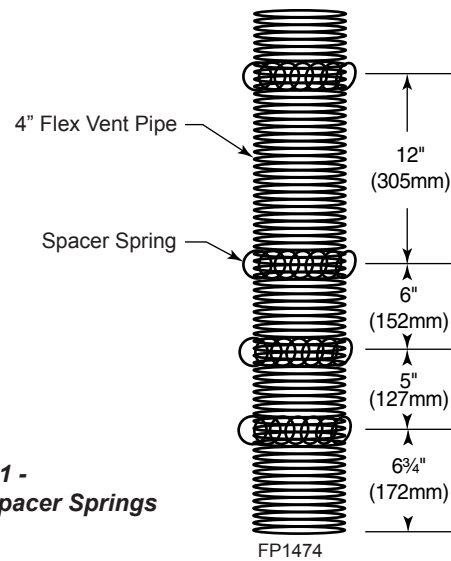

Figure 31 - Install Spacer Springs
Install the four (4) spacer springs on the 4" flex vent pipe. When installing the spacer springs around the 4" pipe, stretch the spring to approximately 15" (381 mm), wrap the spring around the pipe and interlock the ends of the spacer spring approximately 2" (51 mm). Measure 6¾" (172 mm) from the end of the pipe. Place the next spring 5" (127 mm) from the previously installed spring. Place the next spring 6" (152 mm) from the last spring. Finally place the last spring 12" (305 mm) from the last spring installed. *Figure 31*